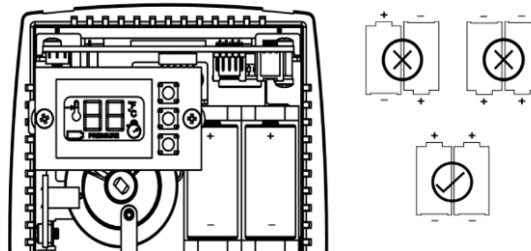

Figure 7. WPT-DB Batteries
8. Install the batteries and close the top cover. The battery polarities are as shown in Figure 7.
Replace battery with Type CR123A, that meet UL-1642, as evidenced by UL component recognition mark, only (from Panasonic, Energizer or Duracell). Use of any other battery may present a risk of fire or explosion. See Figure 7 for correct polarity.